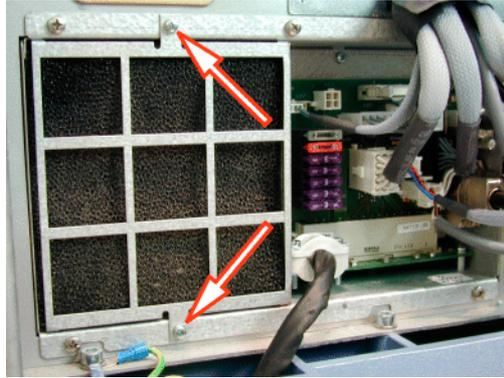

Figure 5 Frame fixing screws
1. Unscrew the fixing screws holding the frame (Figure 5).